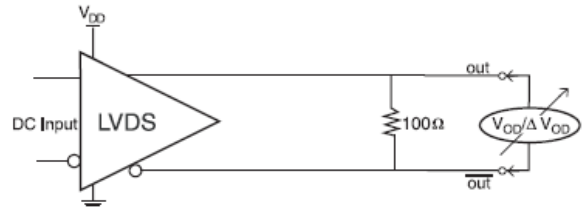

Figure 12. V_{OD} and ΔV_{OD}
- $V_{OS} \text{ max} + \frac{1}{2} V_{OD} \text{ max}$. Also see Figures 12 and 13.
- $V_{OS} \text{ min} - \frac{1}{2} V_{OD} \text{ max}$. Also see Figures 12 and 13.